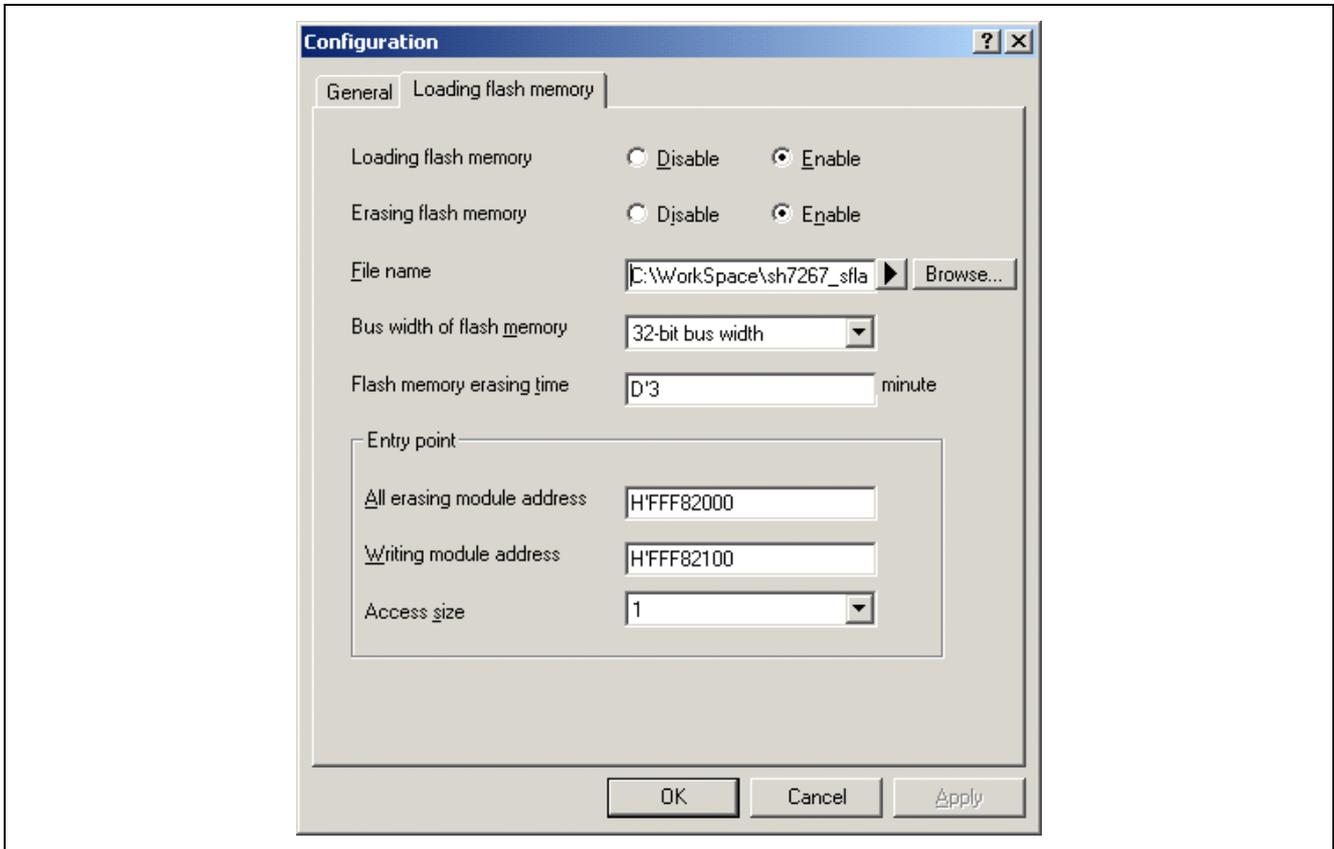

Figure 6.4 Configuration Dialog Box (in the page of loading flash memory)
2. Figure 6.4 shows the “Configuration” dialog box (the page of lading flash memory) for setting to download a user program to the external flash memory using the E10A-USB emulator.